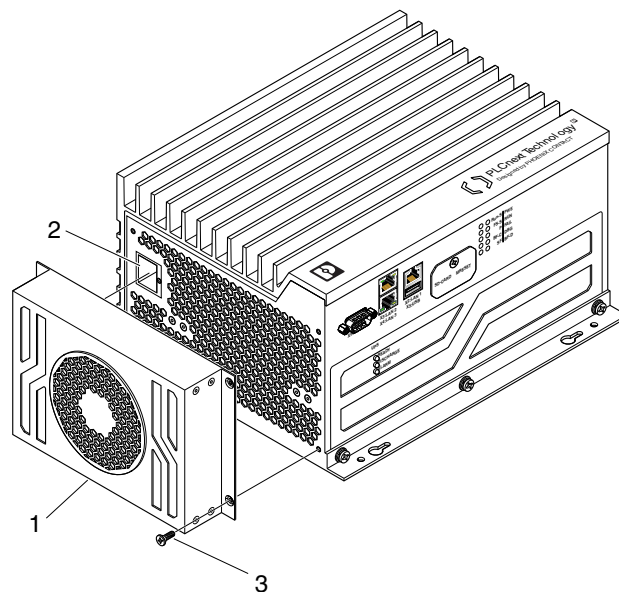

Figure 4-1 Mounting the BPC 9102 FAN KIT fan kit
1. Remove the cover plate over the socket for the power plug (pos. 2 in Figure 4-1).
2. Align the fan kit (pos. 1 in Figure 4-1) on the end of the BPC 9102S.
3. Align the power plug on the rear of the fan kit with the socket (pos. 2 in Figure 4-1) on the underside of the BPC 9102S.
4. Secure the fan kit using the four M4 screws (pos. 3 in Figure 4-1) included in the BPC 9102 FAN KIT scope of delivery.